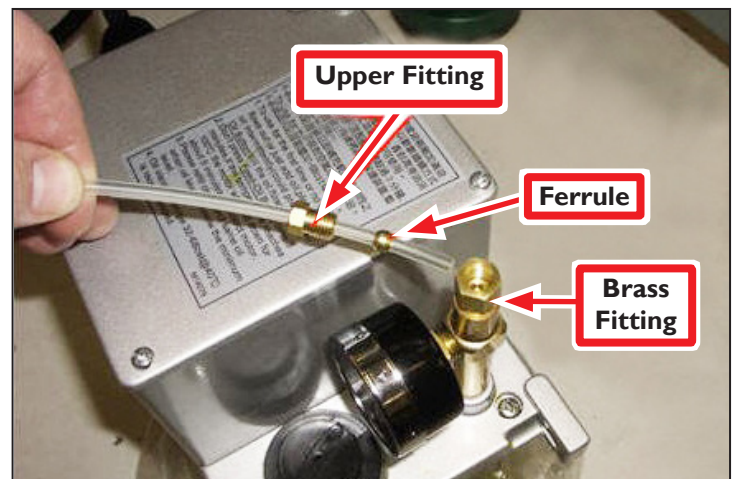

Figure 2
5. Using Upper Fitting and Ferrule from automatic oiler's Brass Fitting, attach oil line to Automatic Oiler as shown in **Figure 2**. Tighten using an 8 mm wrench.